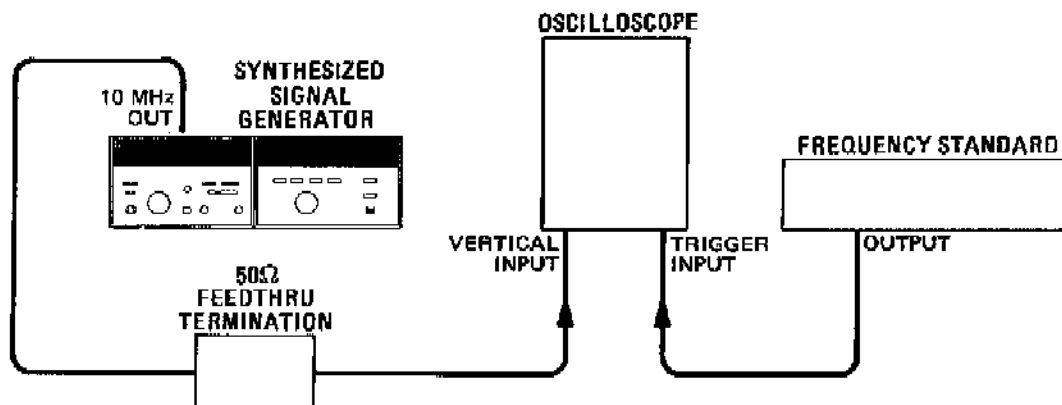

Figure 4-17. Internal Time Base Aging Rate Test Setup
2. Connect the equipment as shown in Figure 4-17.